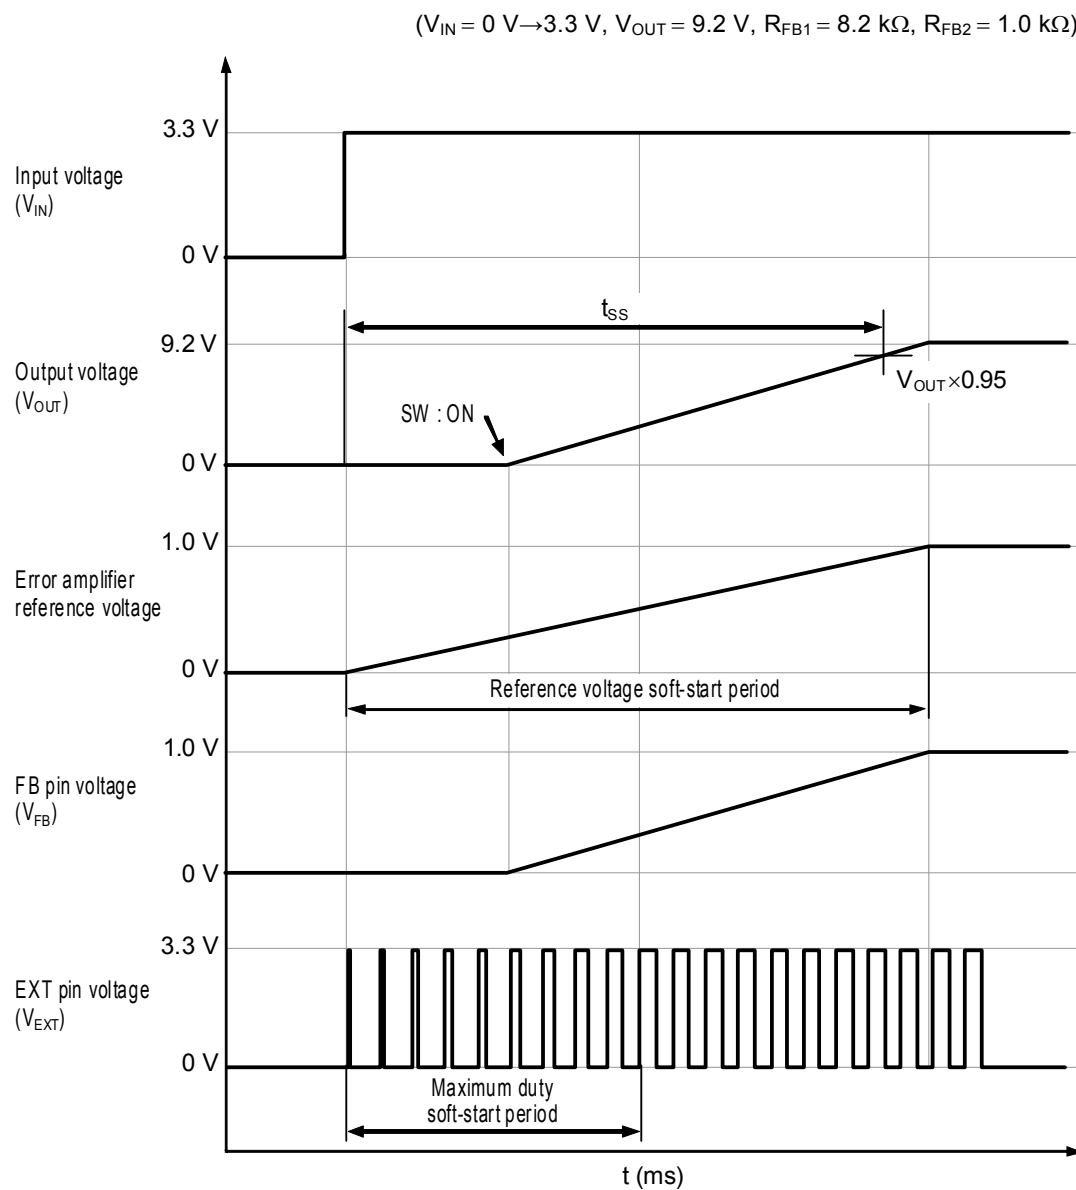

Figure 8
In the circuit where the input voltage is not directly output at shutdown by inserting a switch (SW) between the diode (SD) and V_{OUT} output, the V_{OUT} voltage when the V_{IN} voltage is applied with the SW OFF stays 0 V. Therefore, the voltage of the FB pin stays 0 V and the EXT output is in the step up status between the "H" and "L" levels due to the maximum duty. The maximum duty at this time is approximately 7% and the rush current at power application is controlled. The maximum duty soft start is accomplished by gradually increasing the duty width up to the maximum duty set by the external resistor RDuty (refer to **Figure 8**).